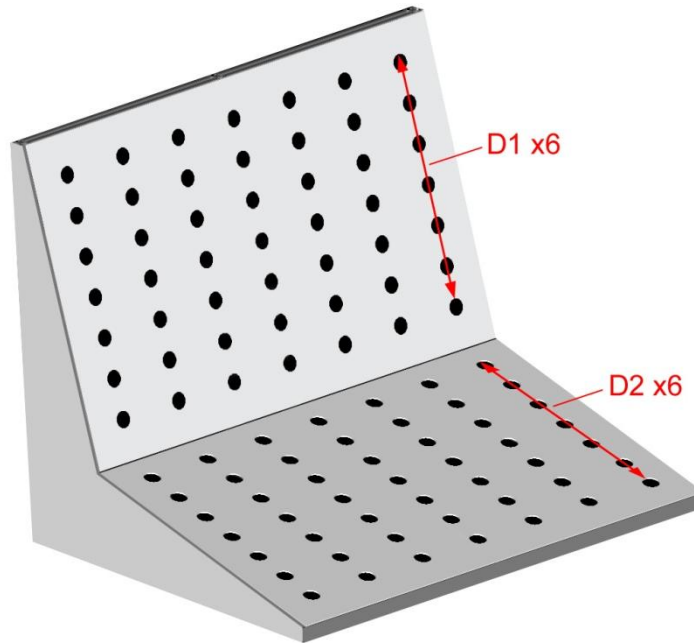

Figure 6. Top and Bottom Face Measurements D1 and D2.
4. Measure the average vertical distance between adjacent dots. Using a similar procedure to that described in Step 3, measure the vertical distance from the top edge of the first dot to the top edge of the last dot, as shown in Figure 6. Divide this measurement by the number of dots in the column, minus 1. Record this value and repeat the measurement for a column of dots on the other face.
The example shown in Figure 6 shows seven dots in the column; therefore, the length that you measure will be 6x the value of D1. To obtain the D1 value, divide the length by 6. A similar calculation should be done for D2.
5. Record the number of rows (horizontal) and columns (vertical) on each face of your fixture. The example shown in Figure 6 above has seven rows and seven columns on each face; however, your fixture may be different.